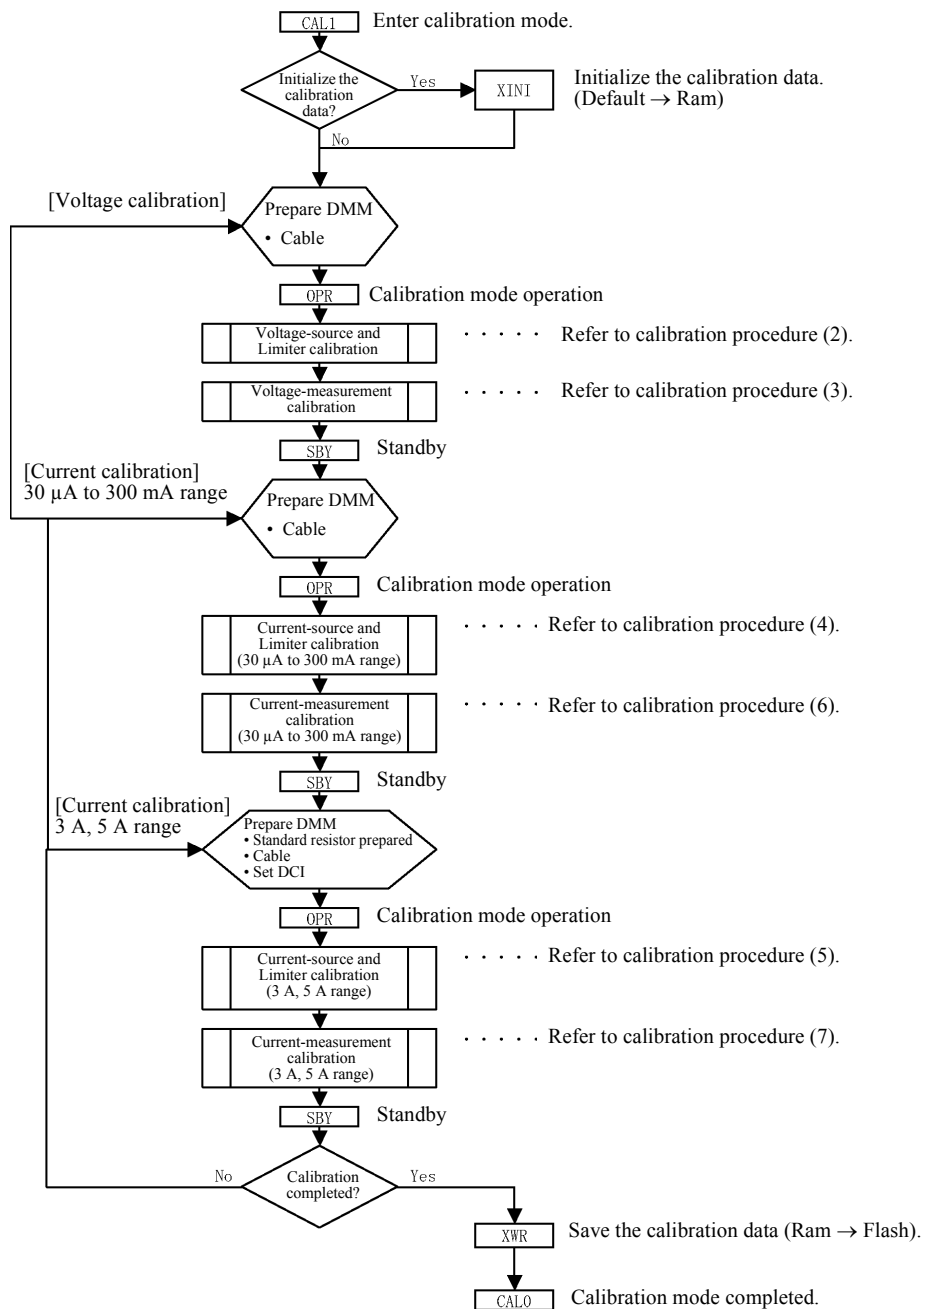

Figure 8-8 6242 Calibration Procedure (1)
For details about the calibration procedure, see Figure 8-8, “6242 Calibration Procedure (1).”